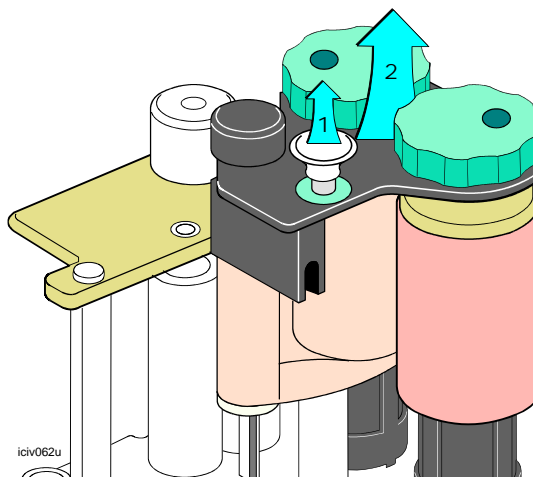

Figure 4-5: Remove the cleaning tape cartridge
- 2 Pull up on the lock button to release the cleaning tape cartridge (step 1 in Figure 4-5).
- 3 Pull firmly and lift the cleaning tape cartridge straight up until the cartridge is above the edge of the printer (step 2 in Figure 4-5). Remove the cartridge from the printer.